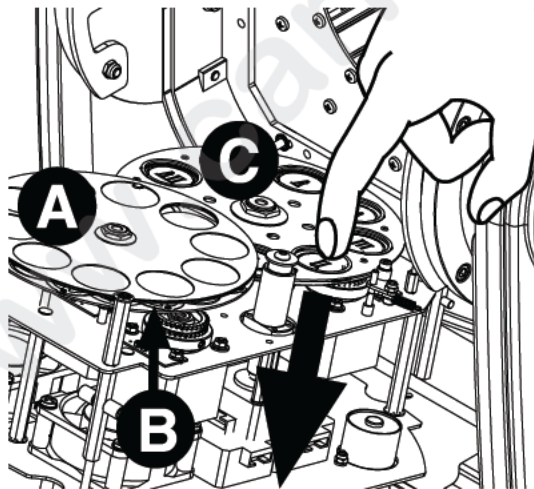
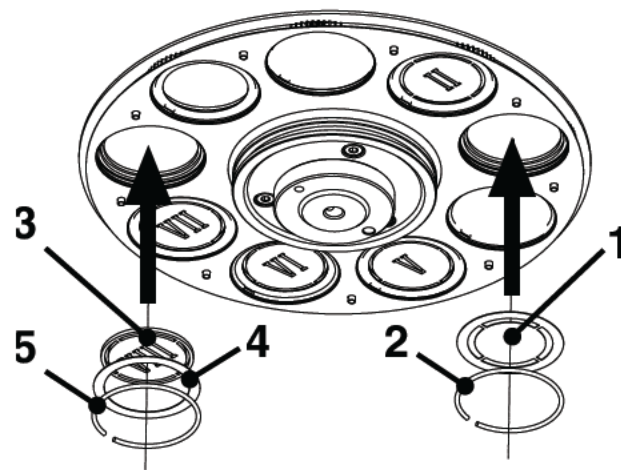

Fig.1
Fig 2
Metal: After opening the fixture, locate the gobo to be replaced, press delicately downwards (Fig.1) until the spring and the gobo come out, making sure they don't fall inside the fixture. Install the new gobo (1) as shown (Fig.2), followed by the locking spring (2).
Dichro: After opening the fixture, locate the gobo to be replaced, press delicately downwards (Fig.1) until the spring, ring and the gobo come out, making sure they don't fall inside the fixture. Install the new gobo (3) as shown (Fig.2), followed by the ring (4) and the locking spring (5).